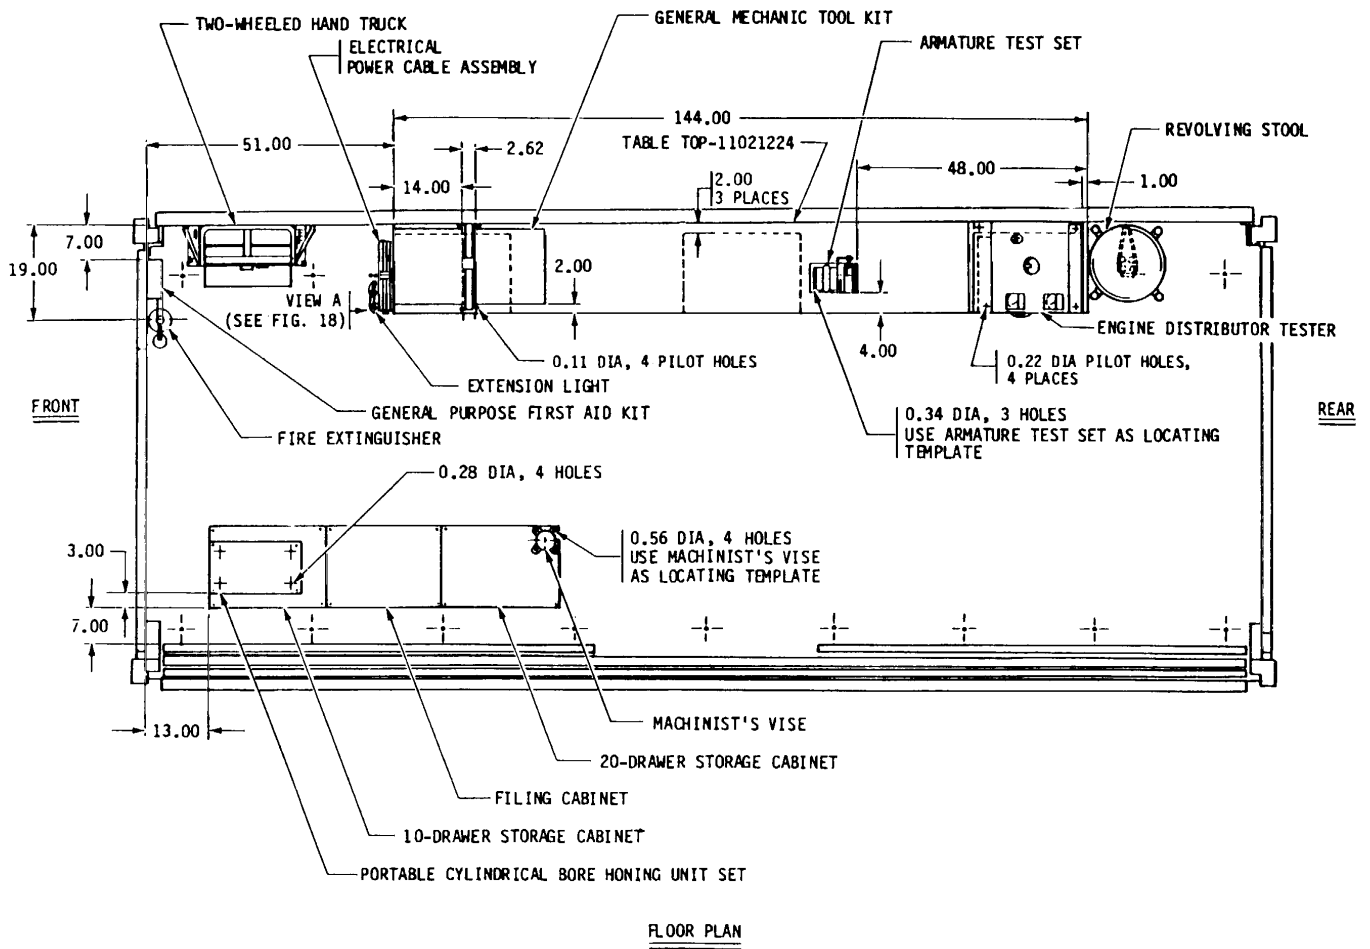
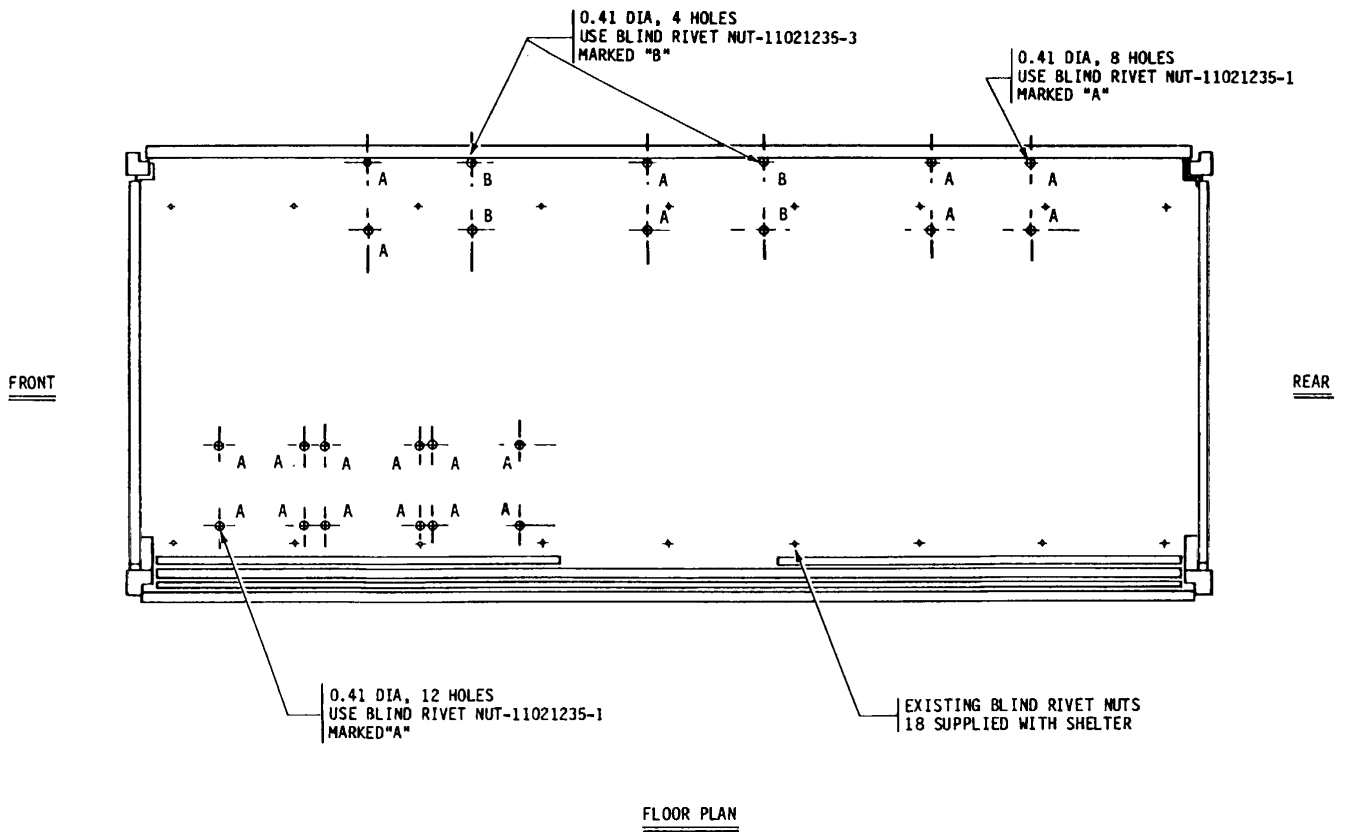

Figure 14. Components to be Mounted, Unit 2, ISO-2-1, Floor Plan.
Figure 15. Dimensions for Installation of Blind Rivet Nuts, Unit 2, ISO-2-1, Fixed Floor.
Position floor -, table top-, cabinet top-, and wall- mounted equipment as shown in figures 14 and 16 thru 19. Use the equipment mounting holes as templates for location of blind rivet nuts and fasteners. Positions may be varied to drill into structural members in fixed floor.
b. Mark and drill thirty-six 0.41-in. diameter holes in fixed and deployed floor in accordance with figures 15 and 19. Install four 5/16 blind rivet nuts (11021235-3) in accordance with figure 15. Install thirty-two 5/16 blind rivet nuts (11021235-1) in accordance with figures 15 and 19.
(2) Mark and drill four 0.42-in. diameter holes in bottom plates of cabinets. Locate at the four corners, allowing for minimum required clearance for 5/16-in. hex head capscrews.
(3) Position three storage cabinets (7125-00-991-2857) on right side of ISO-2-1 shelter fixed floor in accordance with figures 14 and 16, over installed 5/16 blind rivet nuts, in accordance with figure 15. Secure storage cabinets to ISO-2-1 shelter floor, using twelve 5/16- x 5/8-in. hex head capscrews (MS90725-31) and twelve 5/16-in. lockwashers (MS35338-45).
(4) Position table top (11021224) on top of three storage cabinets (7125-00-991-2857) in accordance with figure 14. Using table top as a template, mark and drill twelve 0.34-in. diameter holes through tops of storage cabinets (four per storage cabinet top). Secure table top to storage cabinet tops, using twelve 5/16- x 2-1/4-in. counter-sunk head machine screws (MS35190-311), twelve 5/16in. flat washers (AN970-5), twelve 5/16-in. lockwashers (MS35338-45), and twelve 5/16-in. hex nuts (MS51967-5)
(5) Position general mechanic tool kit (5180-00-669-5273) on table top (11021224) in accordance with figures 14 and 16. Using strap loop (MS51939-3) as a template, mark and drill four 0.11-in. diameter pilot holes in table top. Secure two strap
(6) Position armature test set (6625-00-238-1459) on table top (11021224) in accordance with figure 14. Using armature test set as a template, mark and drill three 0.34-in. diameter holes through base of armature test set and table top. Secure armature test set to table top, using three 5/16- x 1-3/4- in. hex head capscrews (MS90725-39), three 11/32-in. flat washers (MS27183-12), three 5/16-in. lockwashers (MS35338-45), and three 5/16-in. hex nuts (MS51967-5).
(7) Position engine distributor tester (4910-00-392-2939) on table top (11021224) in accordance with figures 14 and 16. Mark and drill four 0.34- in. diameter holes in bottom of engine distributor tester base. Using the engine distributor tester base as a template, mark and drill four 0.22-in. diameter pilot holes through table top. Secure engine distributor tester to table top, using four 5/16- x 1-in. hex head lag bolts (MS16992-520) and four 11/32-in. flat washers (MS27183-12).
(8) Position revolving stool (7110-00-634-8596) on rear right wall in accordance with figures 14 and 16. Secure revolving stool, using 30-in. retaining strap (7550588-8).
(11) Position electrical power cable assembly (6150-00-682-3460) and extension light (6230-00-729-9259) on installed 3/8- x 5-in. square neck bolt in accordance with figures 14 and 16. Secure electrical cable assembly and extension light to 3/8- x 5-in. square neck bolt and storage cabinet, using one 12-in. retaining strap (7550588-6).
(12) Position two-wheeled hand truck (3920-01-052-8327) to rear right side wall in accordance with figures 14 and 16. Secure two-wheeled hand truck, using 72-in. retaining strap (7550588-1).
(13) Position mounting bracket of fire extinguisher (4210-00-202-7858) on right front side wall in accordance with figures 14 and 18. Mark and drill three 0.22-in. diameter holes in mounting bracket. Position mounting bracket over the installed #10 blind rivet nuts in accordance with figure 18. Secure mounting bracket to right front wall, using three #10 x 1/2-in. countersunk head machine screws (MS35190-271). Install fire extinguisher in mounting bracket.
(14) Remove contents of general purpose first aid kit (6545-00-922-1200). Mark and drill three 0.22-in. diameter holes in the back of general purpose first aid kit. Position on right front wall in accordance with
figures 14 and 18 over installed #10 blind rivet nuts in accordance with figure 18. Secure general purpose first aid kit to front right side wall, using three #10 x 1/2-in. countersunk head machine screws (MS35190-271). Reinstall contents of general purpose first aid kit.
(15) Position 10-drawer storage cabinet (7125-00-999-1122), filing cabinet (7110-00-999-1124), and 20-drawer storage cabinet (7125-00-999-1123) in front left side of ISO-2-1 shelter in accordance with figures 14 and 17 over installed 5/16 blind rivet nuts on ISO-2-1 shelter floor in accordance with figure 15 (four holes per cabinet). Secure cabinets to ISO- 2-1 shelter floor, using twelve 6/16- x 5/8-in. hex head capscrews (MS90725-31) and twelve 5/16-in. lockwashers (MS35338- 45).
(16) Position portable cylindrical bore honing unit set (5130-00-595-8355) on top of installed IO-drawer storage cabinet in accordance with figure 14. Mark and drill four 0.28-in. diameter holes through portable cylindrical bore honing unit set bottom and 10-drawer storage cabinet top in accordance with figure 14. Secure portable cylindrical bore honing unit set to 10-drawer storage cabinet top, using four 1/4- x 3/4-in. pan head machine screws (MS35206-
(17) Position machinist's vise (5120-00-293-1439) on top of installed 20-drawer storage cabinet in accordance with figure 14. Using machinist's vise as a template, mark and drill four 0.56-in. diameter holes in 20-drawer storage cabinet top. Secure machinist's vise to 20-drawer storage cabinet, using four 1/2- x 1-3/4-in. hex head capscrews (MS90725-114), four 1/2-in. flat washers (MS27183-17), four 1/2-in. flat washers (AN970-8), four 1/2-in. lockwashers (MS35338-48), and four 1/2- in. hex nuts (MS51967-14).